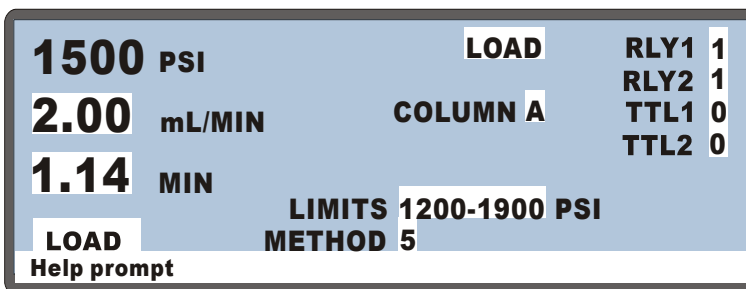

Figure 2-8. Main Screen
2. The operating mode field displays either **LOCAL** or **REMOTE** (see Figure 2-8). To change the mode, move the cursor to this field, press **Select** Δ or **Select** ∇ to toggle to the desired mode, and press **Enter** or a cursor arrow button. (For TTL input control, select Local mode.)
2. The control mode field displays either **DIRECT CNTRL** or **METHOD** (see Figure 2-8). To change the mode, move the cursor to this field, press **Select** Δ or **Select** ∇ to toggle to the desired mode, and press **Enter** or a cursor arrow button.
When the IS25 power is turned on, the pump is in Local mode (see Figure 2-8). In Local mode, the pump accepts operating commands from two sources: